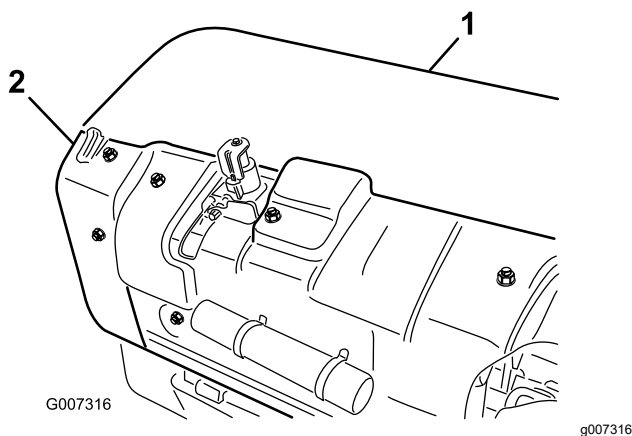

Figure 33
- A. Remove the rear coring head cover (Figure 33).
- B. Remove the pulley shield mounting bolts and remove the shield (Figure 33).